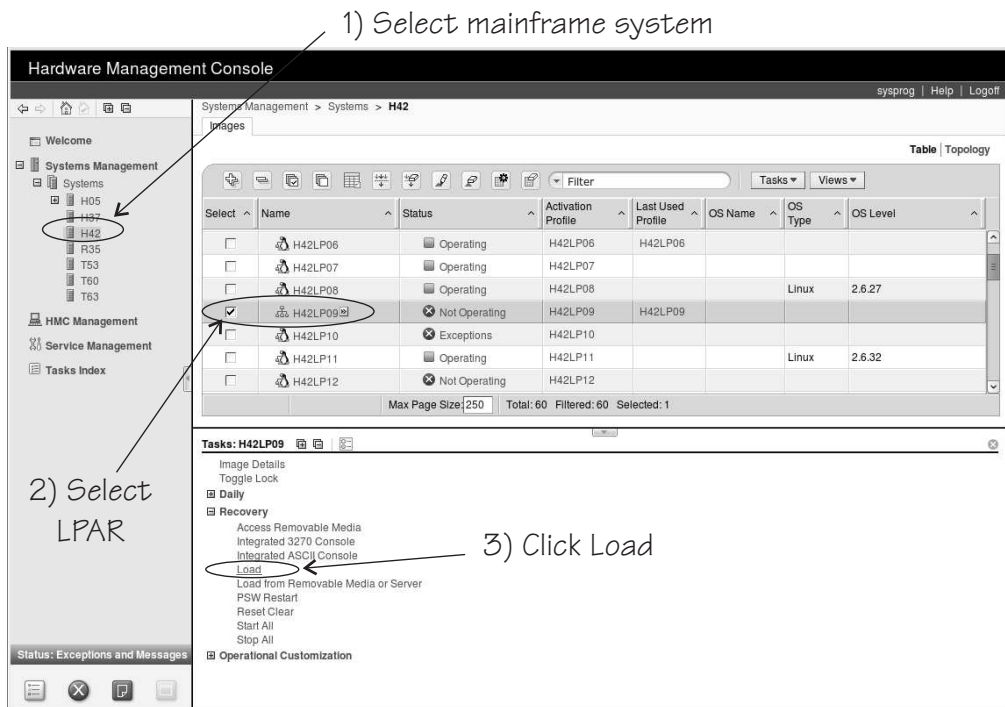

Figure 16. Load task on the HMC
3. In the **Tasks** area, expand **Recovery** and click **Load** (see Figure 16 on page 66).